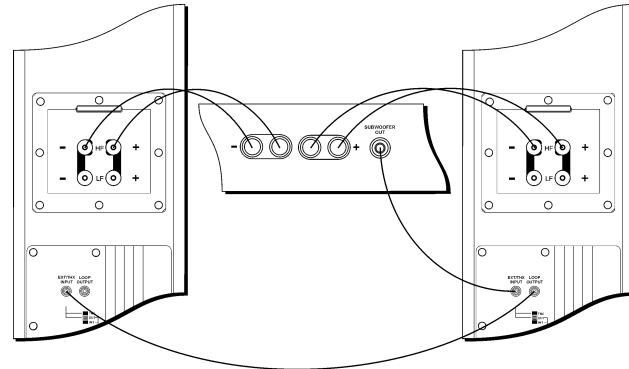

fig. 7
- **THX** mode selects the EXT/THX input socket and disables the internal volume control and internal crossover circuits, as required by Lucasfilm THX when used with THX certified electronics (wiring configuration shown in fig. 7 opposite).
- **EXT** mode also selects the EXT/THX input socket but enables the volume control and internal crossover circuits for use with a non THX certified surround-sound processor (wiring configuration shown in fig. 7 below). Volume control should be adjusted for best sound balance.